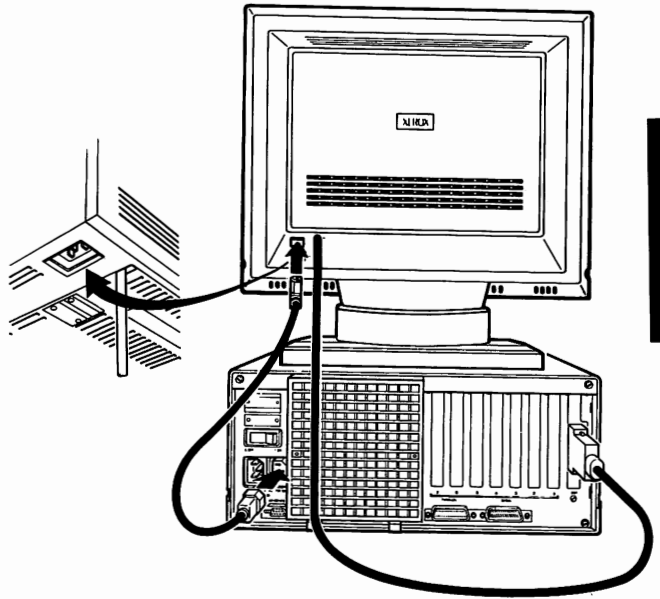

Figure 1-15. Connecting the color display power cord.
- Locate the power socket beneath the left rear corner of the display (Fig. 1-15). Insert the female plug into this power socket, and the male (pronged) plug into the power socket on the rear of the processor (Fig. 1-15).